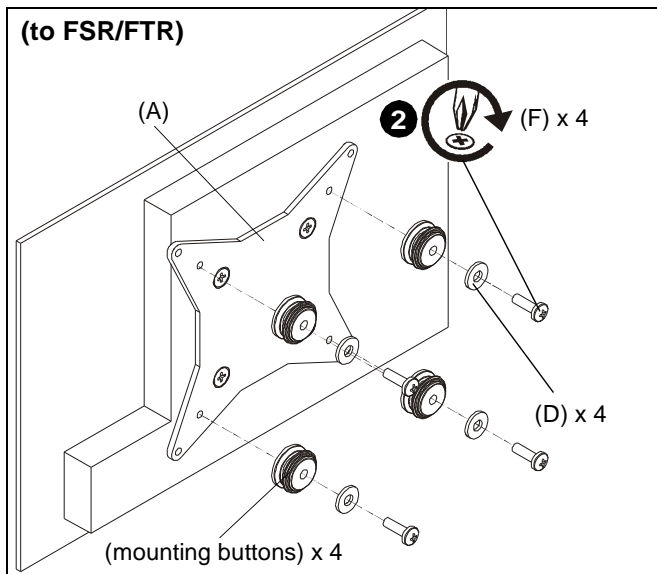

Figure 2
2. **(To FSR/FTR mount)** Attach mounting buttons (included with FTR/FSR) to interface bracket (A) using four M4x12mm Phillips pan machine screws (F) and four standard M4 washers (D). (See Figure 2)